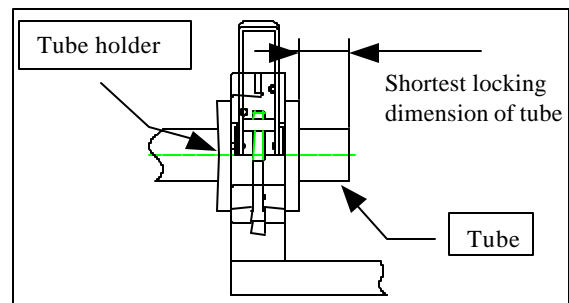

Fig. 16 Shortest dimension to retain the tube
- Using the clamp, lock the tube with the union nut passing through it, so that at least the shortest locking dimension of the tube shown in Table 6 is met (Fig. 16).